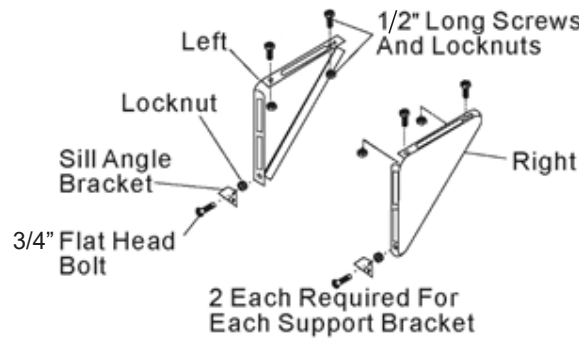

Fig.10B
1. Assemble the sill angle bracket to the support brackets at the marked position. (Figure 10B)